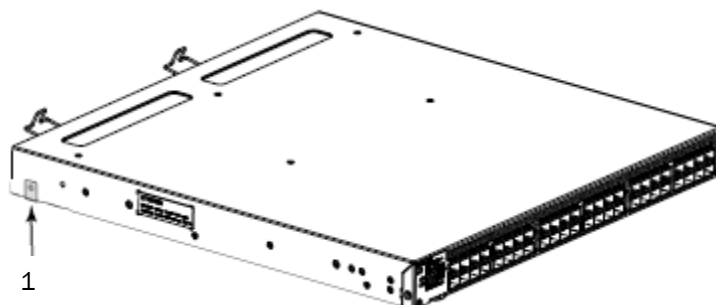
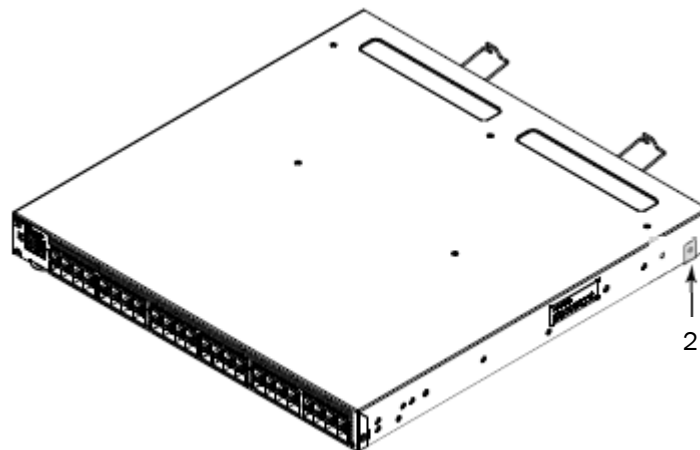

Figure 9 VDX 6710-54 left side seal location
Figure 10 VDX 6710-54 right side seal location
Two (2) tamper evident seals are required to complete the physical security requirements for the VDX 6710-54. See Figure 9 and Figure 10 for details on how to position each seal.